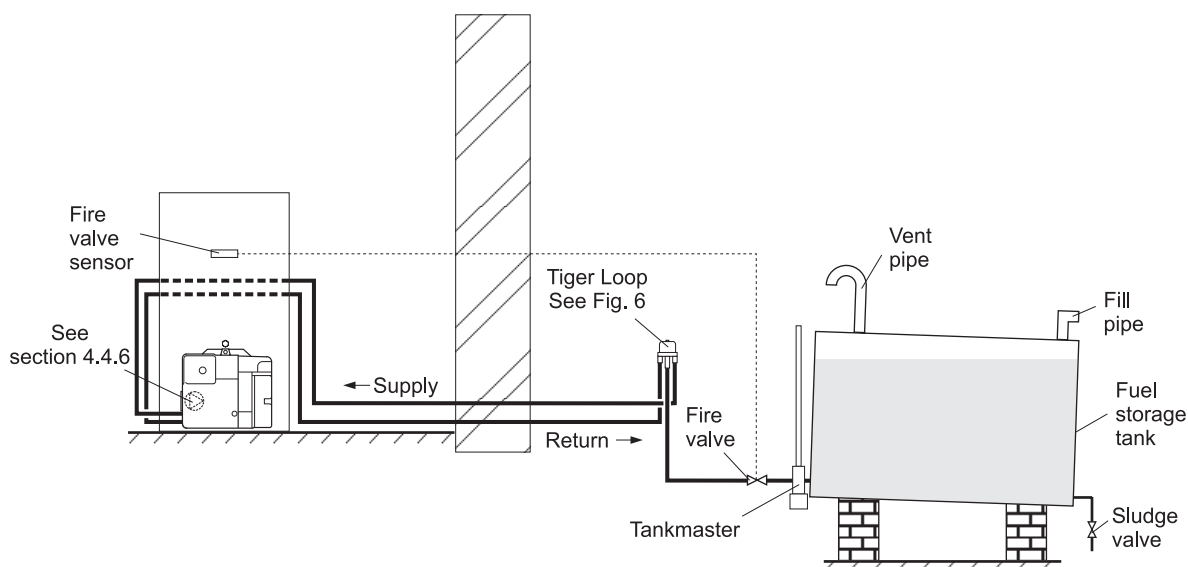

Fig. 5 - Tiger loop system
4.4.5 Tiger Loop system - (See Figs. 5 and 6)
- 2 The Tiger Loop is connected close to the boiler as a two pipe system (omitting the non-return valve) as shown in Fig. 5. Refer to the manufacturers instructions supplied with the Tiger Loop. The Tiger Loop **must** be mounted vertically.